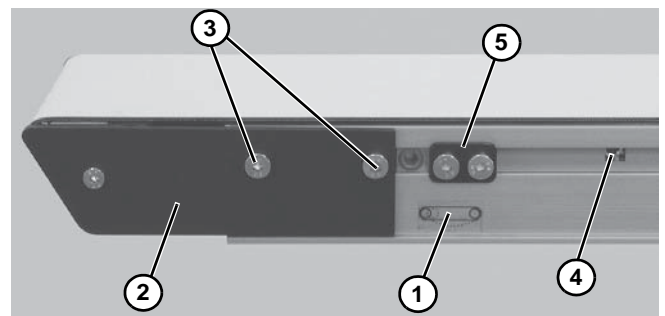

Figure 28
1. On tension end of the conveyor, identified with a  label (**Figure 28, item 1**), adjust head plate assembly (**Figure 28, item 2**): On both sides of conveyor, loosen fastening screws (**Figure 28, item 3**) and rotate pinion gear (**Figure 28, item 4**) to adjust head plate assembly.
3. After adjusting proper tensioning, tighten fastening screws (**Figure 28, item 3**) on both sides of conveyor to 60 in-lb (7 Nm).
4. If equipped with cam tracking assemblies (**Figure 28, item 5**) position against head plates and adjust belt tracking. Refer to "Conveyor Belt Tracking", next section.